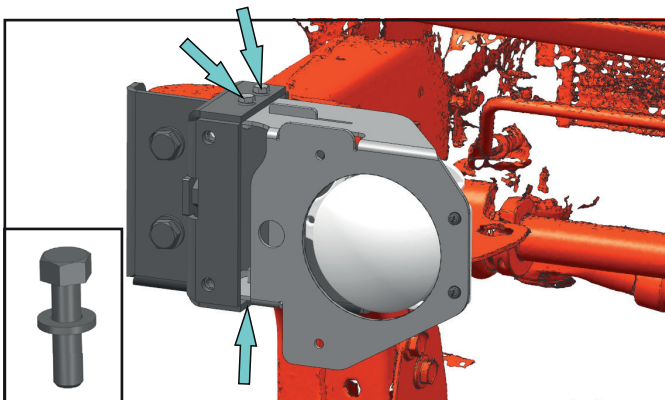

Fig. 16
13. Install Fog light right bracket (item 4) and Fog light left bracket (item 5) on brackets (item 2, 3). Fix it using bolts M6x20 (item A), washer 6 mm (item H) (Fig. 16,17). Fix fog lights wiring using cable ties (item L) and cable clips (item M) on the vehicle's frame